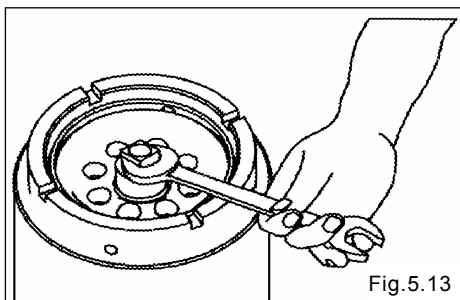

Fig.5.13
- Use the dedicated tool 1, a socket for a guide (option: part number 804131) and a 24mm wrench to remove the throat bearing. [Fig. 5.12, Fig. 5.13]